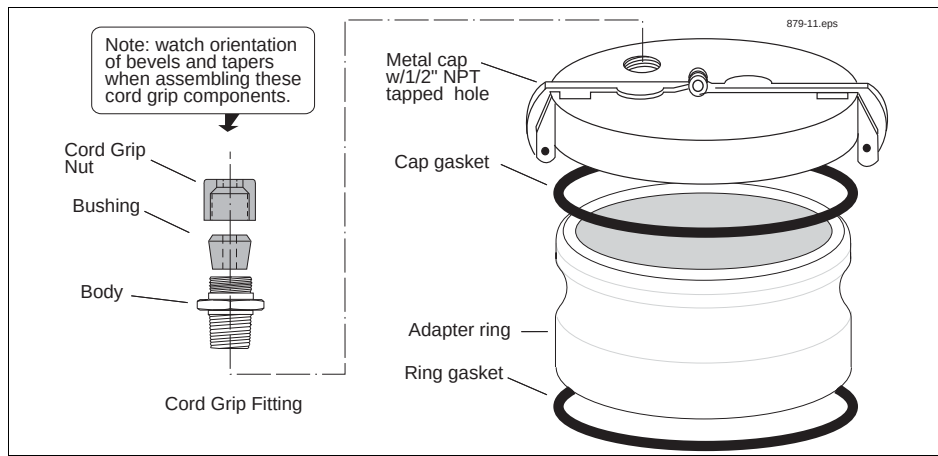
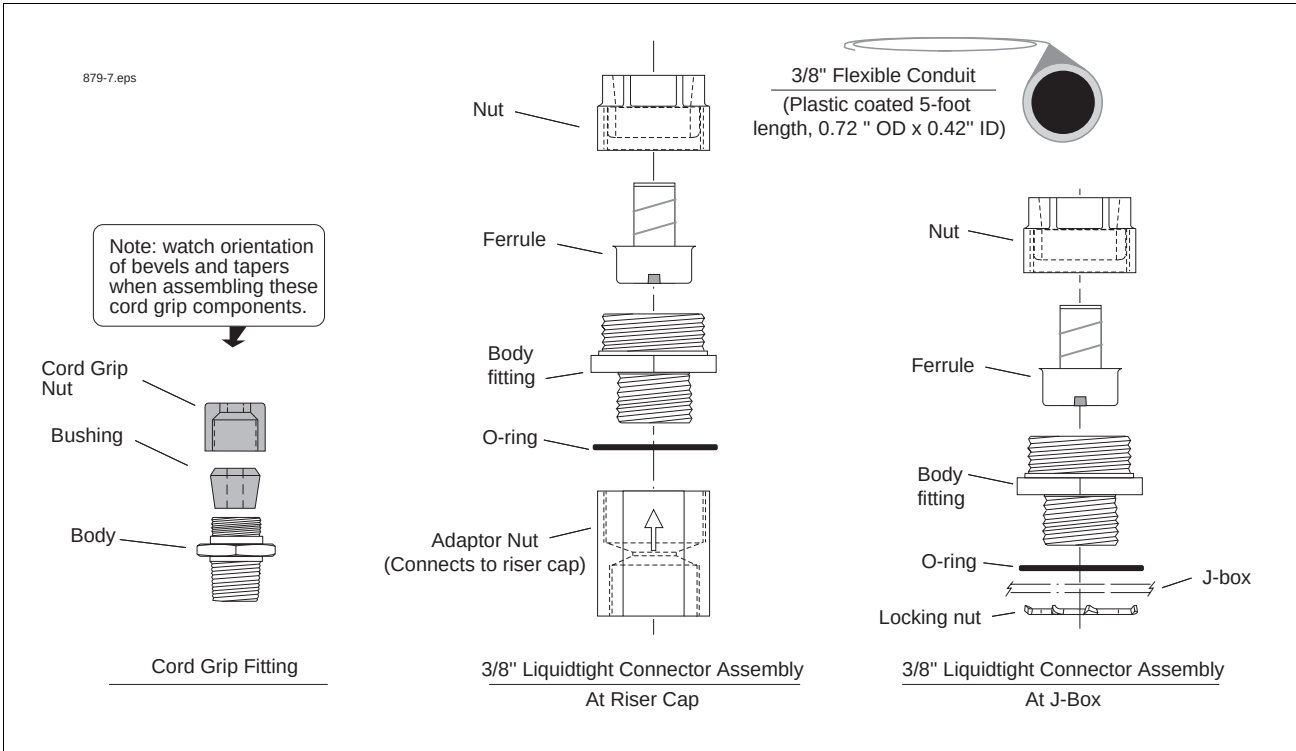

Figure 5. Metal Cap And Ring Kit
Figure 7. AST Installation Kit
This riser cap kit contains an adapter ring which screws onto the 4"NPT riser and a quick-release metal cap which clamps onto the ring (Table 4). The cap comes drilled and tapped with a cord grip (Figure 5).
This kit is recommended when installing Mag Plus probes into an above ground storage tank (AST). This kit contains a length of flexible conduit, connectors, etc., for easier probe access. The kit contents are listed in Table 5 and shown in Figure 7.
If installing the metal cap and adapter ring (see Figure 5 on page 9), screw the ring onto the 4" riser until the gasket contacts the pipe, then use a torque wrench attached to an appropriate strap wrench (K-D Specialty tools nylon strap oil filter wrench, or equivalent) and tighten the ring to 35 - 45 ft-lbs. Push the cable through the metal cap and cord grip, then clamp the cap onto the adapter ring.
1. If using the one piece cap (see Figure 4), push the end of the probe cable through the cap and cord grip bushing, leaving a minimal amount of slack between the probe and cap. Discard the cord grip nut and attach the Adapter Nut from the AST kit to the cap (see Figure 7). Tighten the Adapter Nut until the cable is held firmly. Go to Step 3.
2. If installing the metal cap and ring (see Figure 5), screw the ring onto the 4" riser until the gasket contacts the pipe, then use a pipe wrench to tighten it an additional 3/4 turn. Using UL-classified pipe sealant (suitable for the fuels involved), screw the cord grip fitting into the tapped hole and tighten. Place the cord grip bushing in the fitting. Discard the cord grip nut and loosely screw the Adapter Nut from the AST kit onto the cord grip fitting (see Figure 7). Push the cable through the metal cap, bushing, and Adapter nut, then clamp the cap onto the ring. Make sure there is a minimal amount of slack between the probe and cap, then tighten the Adapter Nut until the cable is held firmly.
3. Next assemble the liquid tight connectors on both ends of the flexible conduit as shown in Figure 7. Push the cable through the flexible conduit assembly and into the J-box. Connect the flexible conduit assembly to the Adapter Nut on one end and the J-box on the other.